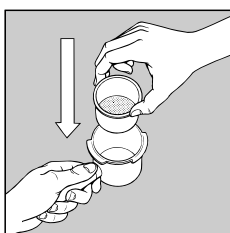

fig. 3
- 4 Insert the filter into the filter-holder. (fig. 3).